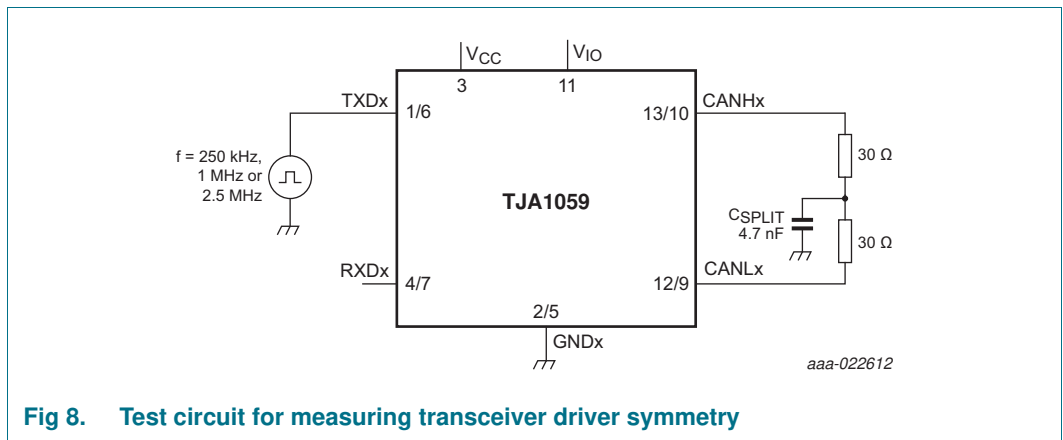

Fig 8. Test circuit for measuring transceiver driver symmetry
- [8] The test circuit used to measure the bus output voltage symmetry (which includes  $C_{SPLIT}$ ) is shown in Figure 8.